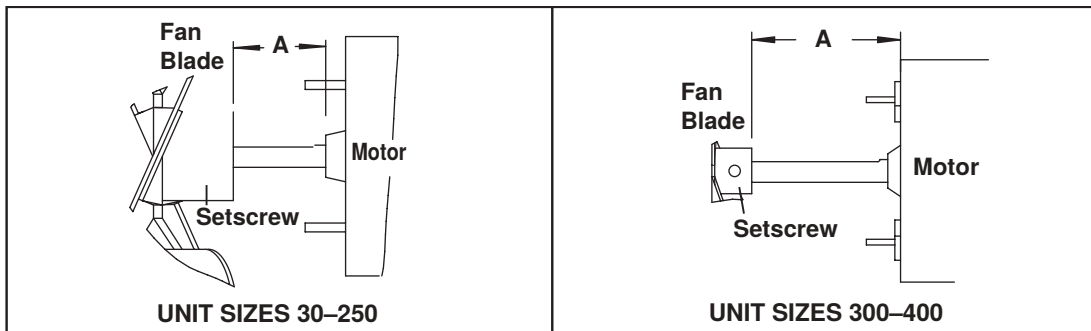

Figure 24. Fan and Motor Spacing (Refer to Table 24)
6. Ensure that fan is in proper position on shaft (see Figure 24), that setscrew is tightened in accordance with torque listed in Table 24, and that nuts securing motor to fan guard are torqued to to 30 inch-pounds.
*See Figure 24.